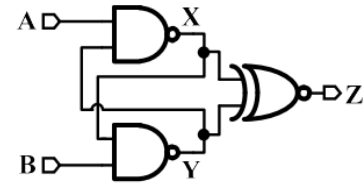

Fig. 3.17
- (A)  $P = 1, Q = 1 ; X = 0$
- (B)  $P = 1, Q = 0 ; X = 1$
- (C)  $P = 0, Q = 1 ; X = 0$
- (D)  $P = 0, Q = 0 ; X = 1$
30. In the circuit diagram shown below in Fig. 3.17, the logic gates operate with a supply voltage of 1V. NAND and XNOR have 200ps and 400ps input-to-output delay, respectively.